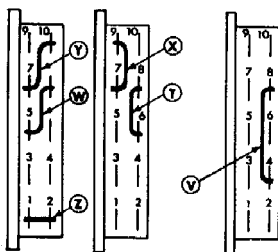

FIGURE 7. K400(D) KTU, Circuit Options
- 11.03 The release time of the 400D KTU can be extended to bridge the open intervals generated by these reswitching sequences by applying the appropriate one of the two following options. See Figure 7.